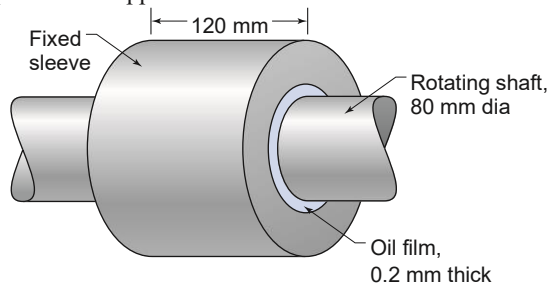

Figure X2.11.9
- 2.11.9** A journal bearing consists of an 80-mm shaft in an 80.4-mm sleeve 120 mm long, the clearance space (assumed to be uniform) being filled with SAE 30 Western lubricating oil at 40°C (Fig. X2.11.9). Calculate the rate at which heat is generated at the bearing when the shaft turns at 150 rpm. Express the answer in kNm/s, J/s, Btu/hr, ftlb/sec, and hp. Refer to Appendix A.